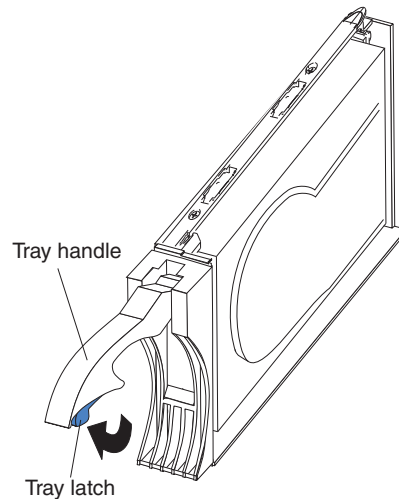

Figure 51. E-DDM CRU handle
- b. Pull the handle on the tray out so that it is in the open position, as shown in Figure 51.
- a. Release the latch on the E-DDM CRU by pressing on the inside of the bottom of the tray handle, as shown by the arrow in Figure 51 on page 95.